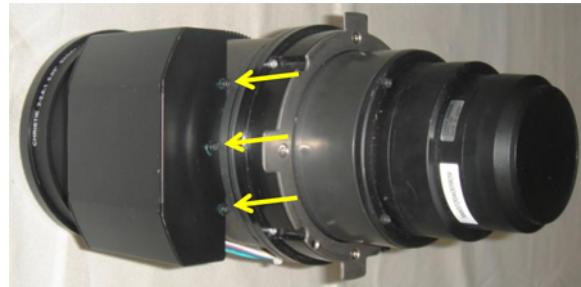

Figure 3-3 Motor Cover Removal
1. Remove lens motor cover by removing screws shown in **Figure 3-3**.